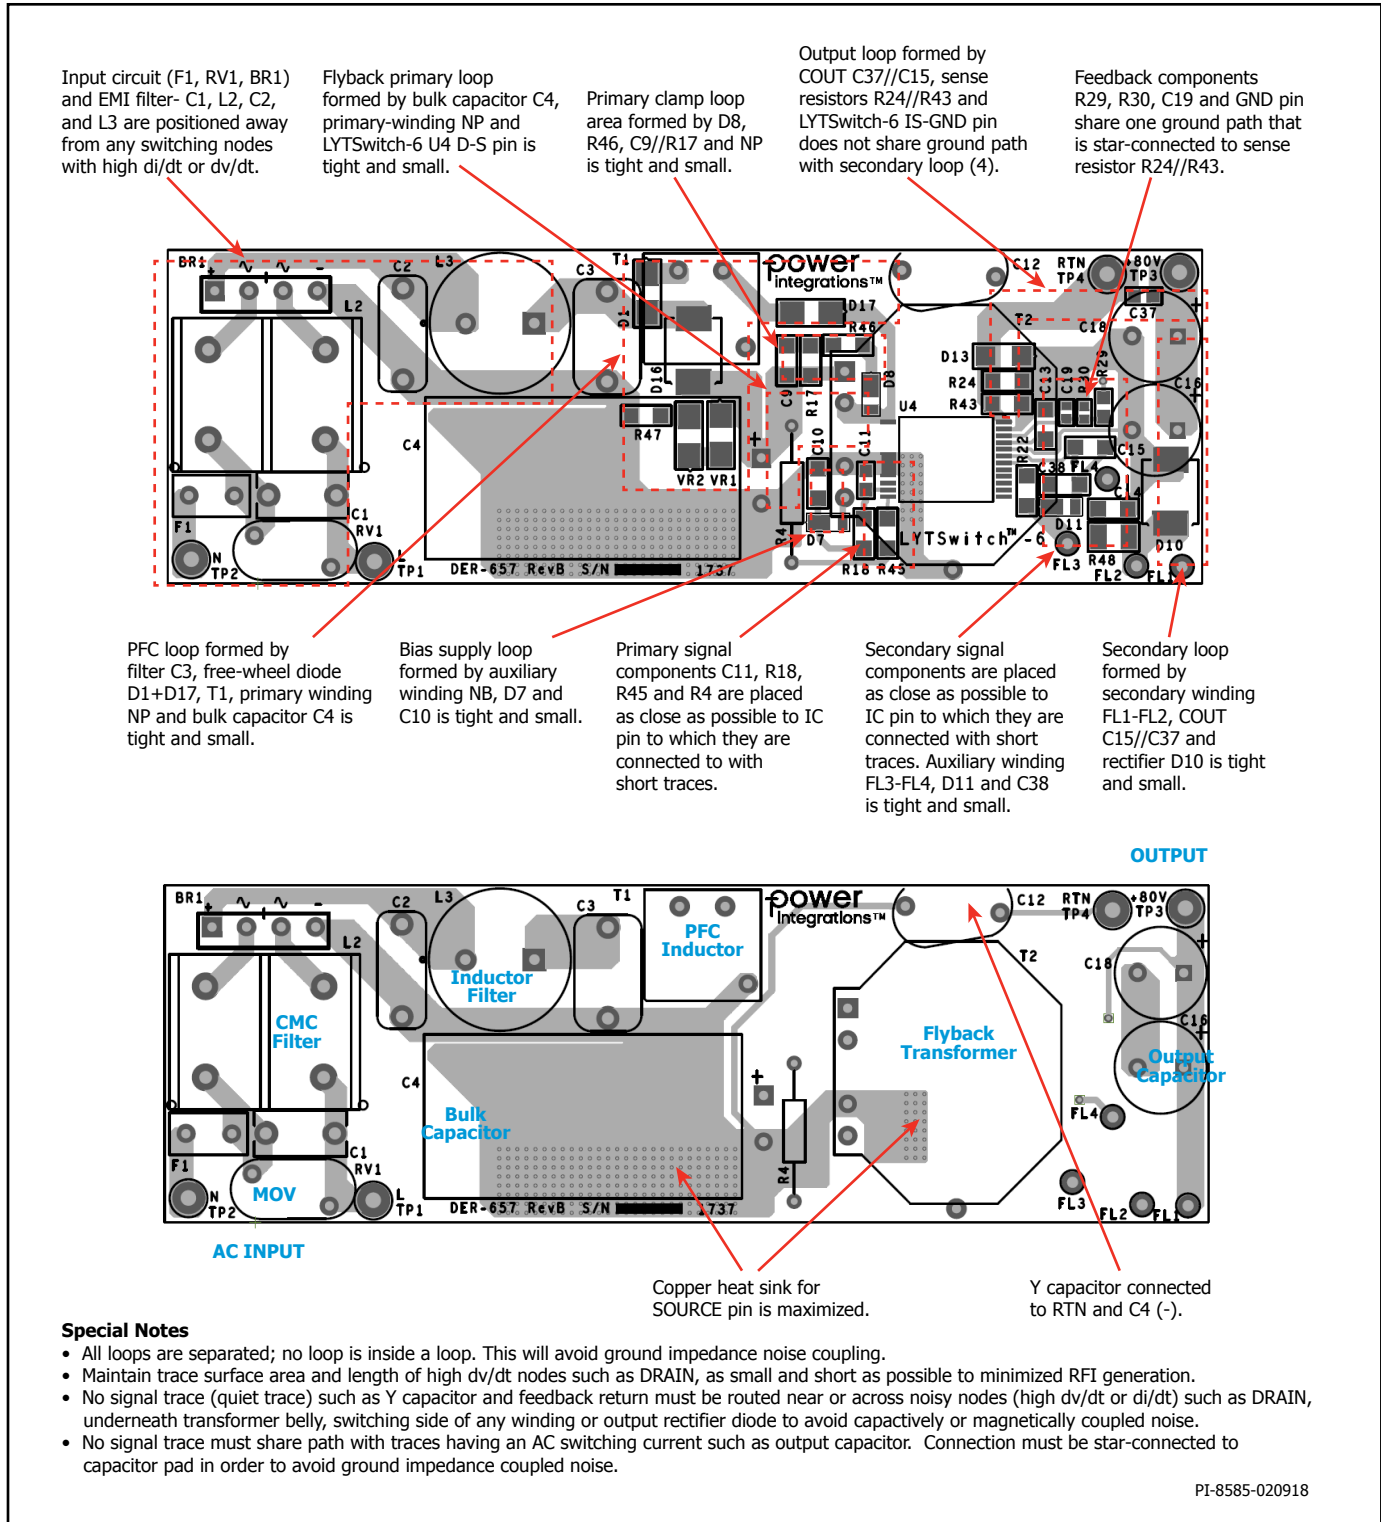

Figure 14. TOP and BOTTOM Sides – Ideal Layout Example Showing Tight Loop Areas for Circuit with High dv/dt and di/dt, Component Placement.
For output constant current (CC) operation, external current sense resistor R_{IS} should be connected between the ISENSE pin and the SECONDARY GROUND pin of the IC as shown in Figure 14. If constant current (CC) regulation is not required, this pin should be connected to the SECONDARY GROUND pin of the IC.
Use a single-point ground connection from the input filter capacitor to the area of copper connected to the SOURCE pin. See Figure 14.
Loops for circuits with high dv/dt or di/dt should be kept as small as possible. The area of the primary loop – input filter capacitor to transformer primary winding to IC should be kept small. Ideally, no loop should be inside another loop (see Figure 14). This will minimize cross-talk between circuits.
1. Appropriate component placement and small loop areas for the primary and secondary power circuits minimizes radiated and conducted EMI. Care should be taken to achieve a compact loop area. (See Figure 14)
7. A π filter comprising differential inductors and capacitors can be used in the input rectifier circuit to reduce low frequency differential EMI. A ferrite bead (Figure 14) can be added to further improve EMI.